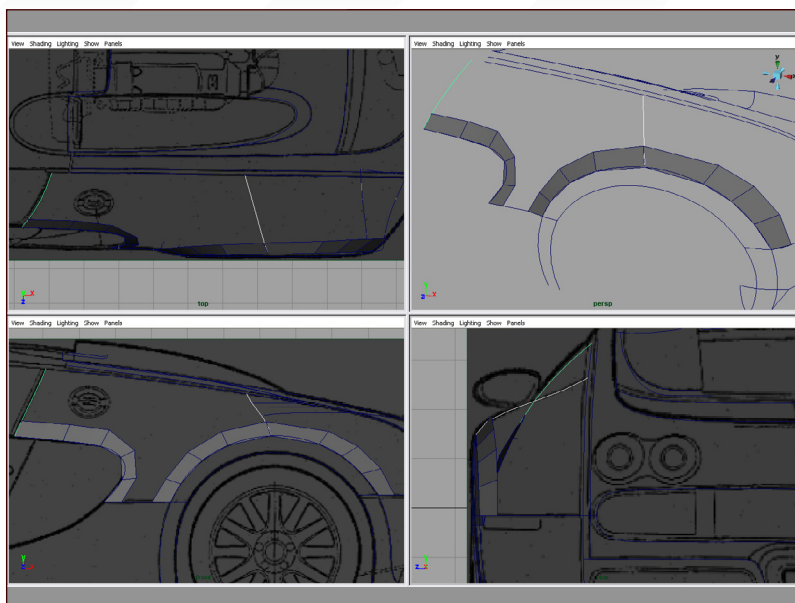

Fig 40
33. The rear fender is probably the hardest part we have tackled so far, mainly because it needs to flow in many directions at once. Good references are the key here. Notice how the fender curves smoothly above the door before bulging out for the wheel arch (**Fig40**). This is quite a tough piece of geometry to get looking right!